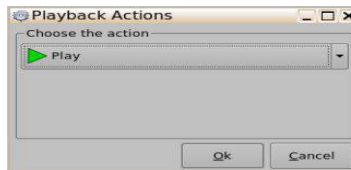

Figure 17: Playback Actions Window
- The user can configure the playback actions on the Playback Actions window (Figure 17).